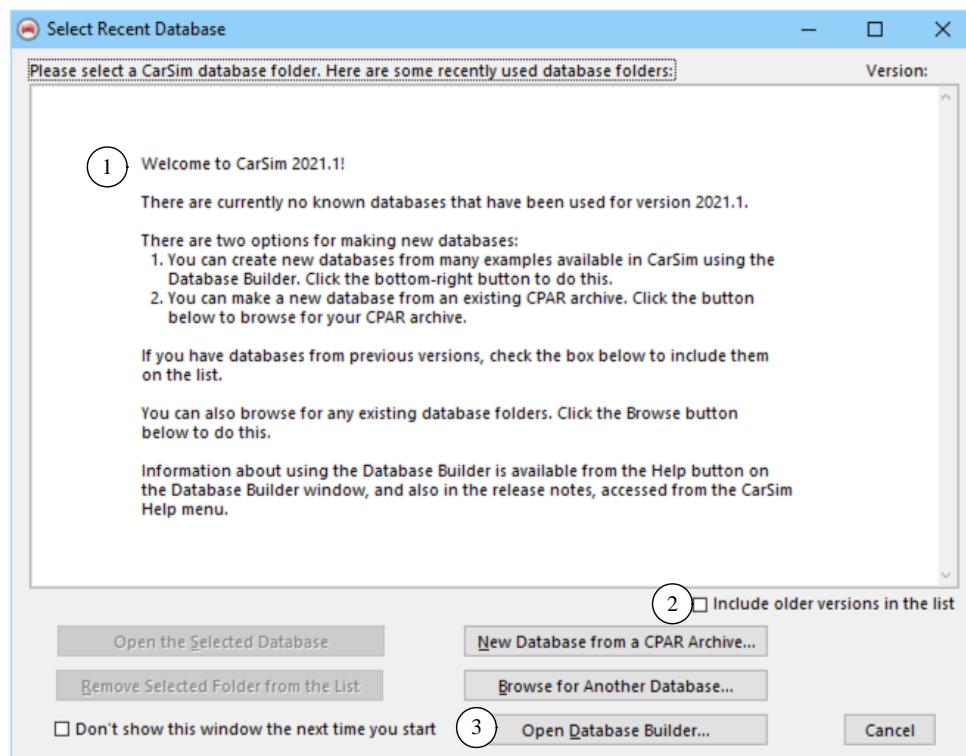
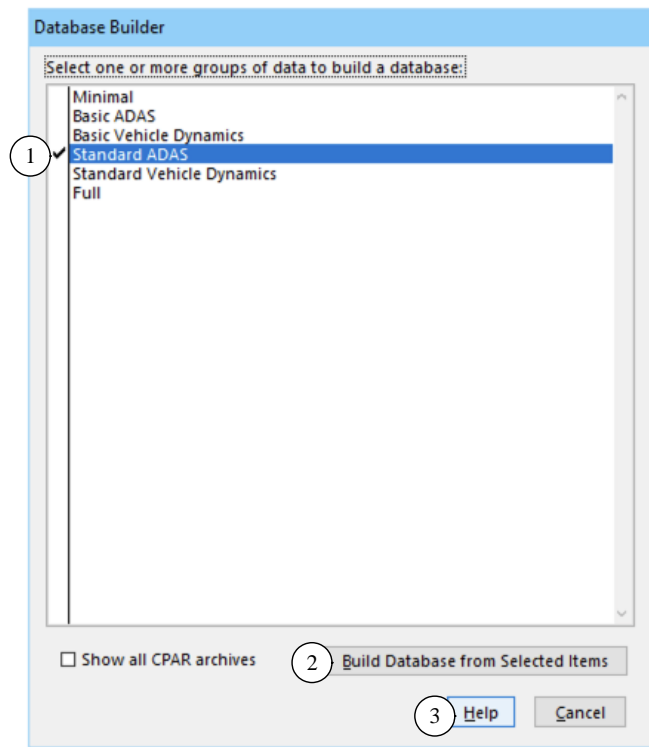
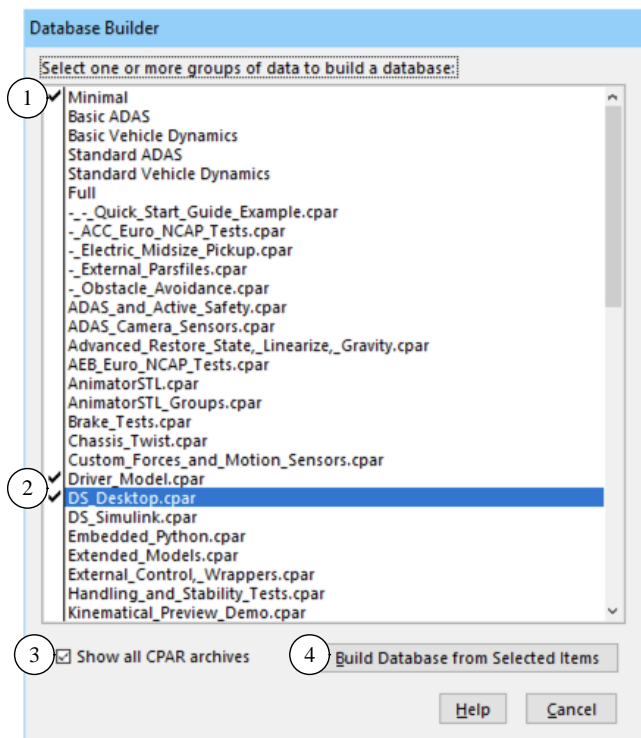

Figure 1. Recent Database window shown when opening a new version of CarSim.
Figure 2. The database builder window showing only predefined database options.
Figure 4. Display when CPARs are also shown.
When opening recent versions of CarSim, a window appears listing database folders that are known for the current version. This window (Figure 1) has been extended for 2021.1, providing access to a new tool: the Database Builder.
To access examples for 2021.1 when you start CarSim, click the button **Open Database Builder** (3) (Figure 1) to bring up the Database Builder window (Figure 2). When a group of data is selected
①, the button **Build Database from Selected Items** ② becomes active. The **Help** button ③ opens a PDF document that describes the options.
**Note** Three of the first four options in the **File** menu correspond directly to three of the buttons in the **Select Recent Database** window (Figure 1).
Figure 2 shows that CarSim 2021.1 provides six predefined databases. Table 1 provides a little more information about these options.
None of the six basic options shown in Figure 2 include specialty examples, such as RT HIL systems, software development kit (SDK) examples, examples with trailers or engine mounts or frame twist, examples using external tire models, etc. To access these, and other specific categories of examples, check the box **Show all CPAR archives**  (Figure 4) to see the entire collection. Notice that many CPAR archives are available, shown below the six database options described in Table 1.